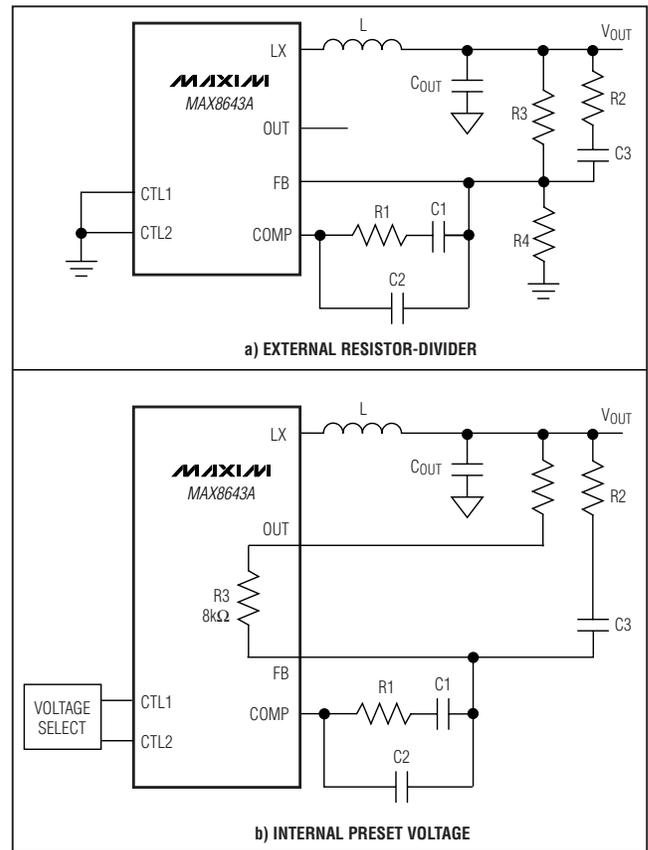
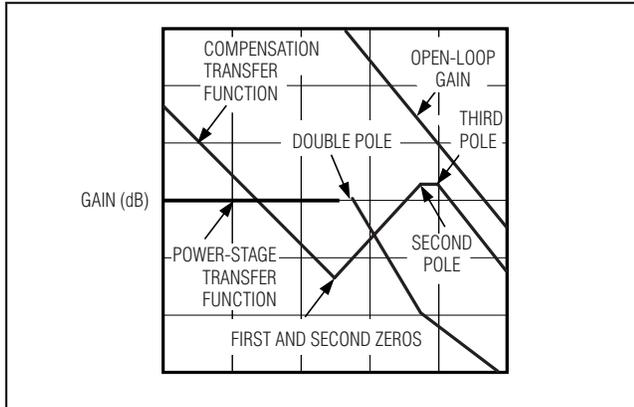

Figure 3. Type III Compensation Network
Figure 4. Type III Compensation Illustration
The high switching frequency range of the MAX8643A allows the use of ceramic output capacitors. Since the ESR of ceramic capacitors is typically very low, the frequency of the associated transfer function zero is higher than the unity-gain crossover frequency, f_c , and the zero cannot be used to compensate for the double pole created by the output filtering inductor and capacitor. The double pole produces a gain drop of 40dB/decade and a phase shift of 180°/decade. The error amplifier must compensate for this gain drop and phase shift to achieve a stable high-bandwidth closed-loop system. Therefore, use type III compensation as shown in Figure 3 and Figure 4. Type III compensation possesses three poles and two zeros with the first pole, f_{p1_EA} , located at zero frequency (DC). Locations of other poles and zeros of the type III compensation are given by: